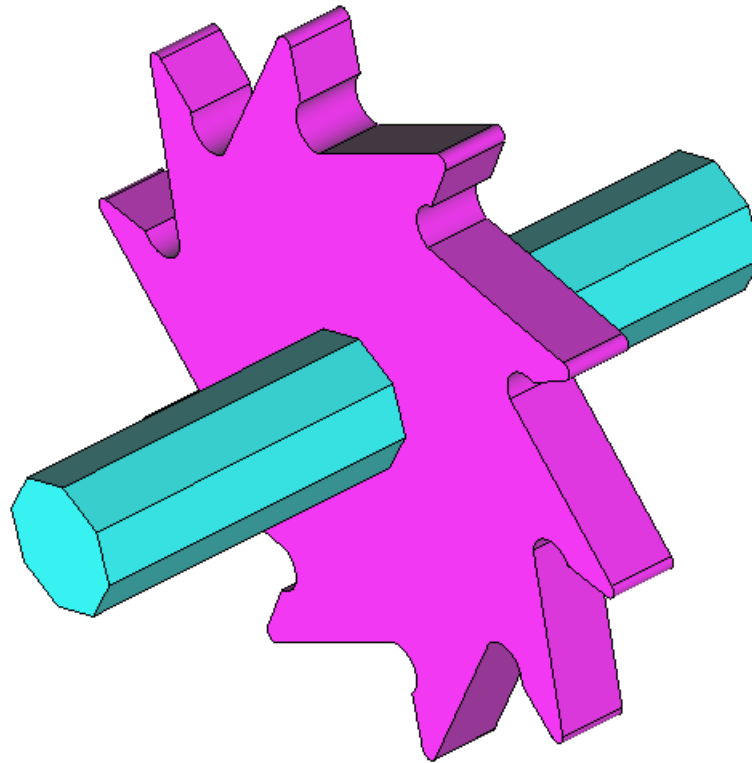

Figure 27. Image of the wheel
- 7 . Choose **Render->Flat** from the mouse menu to visualize a more realistic version of the model (Figure 27).